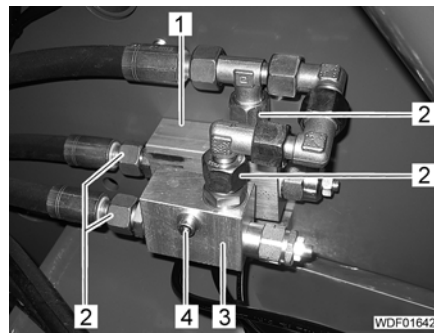
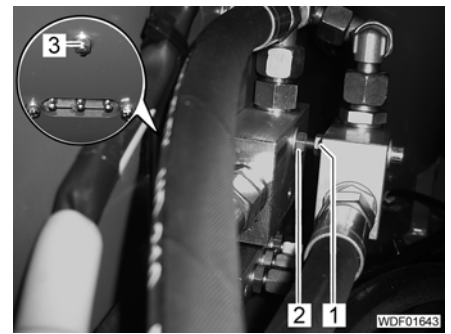

Fig. 264 Pressure limiter valve
Fig. 265 Fastening of the pressure limiter valves
- Unscrew and seal 4 hydraulic lines (Fig. 264,2).
- Unscrew nut (Fig. 265,3).
- Remove bolt (Fig. 264,4) with pressure limiter valve (Fig. 264,3).
- Remove pressure limiter valve (Fig. 264,1).
- Unscrew nuts (Fig. 265,1 and 2) and pull bolt (Fig. 264,4) out of pressure limiter valve (Fig. 264,3).
- Insert bolt (Fig. 264,4) with washer in pressure limiter valve (Fig. 264,3).
- Screw nut (Fig. 265,1) with washers onto thread and tighten slightly.
- Screw nut (Fig. 265,2) onto thread until the distance to the nut (Fig. 265,1) is approx. 1 cm.
- Attach pressure limiter valve (Fig. 264,1) with washer to bolt.
- Screw nut (Fig. 265,3) onto thread.
- Hold nut (Fig. 265,2) and tighten nut (Fig. 265,3).